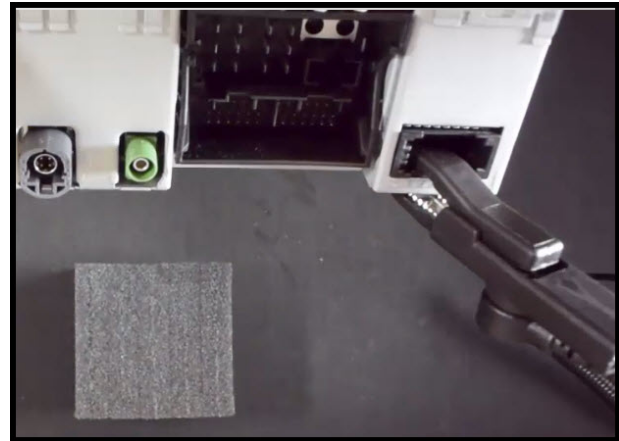

Figure 4. VAS6613 ESD work surface grounding device clip.
6. Ground the MMI main unit by placing an alligator clip on the back, ensuring that it makes contact with the metal housing of the main unit. The most secure location is at the MOST connector (Figure 4).